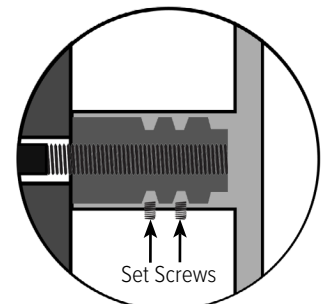

Figure 4.1.9
4.1.9 Insert two allen set screws into each stand off and tighten using a 5/64" allen wrench as shown in Figure 4.1.9.